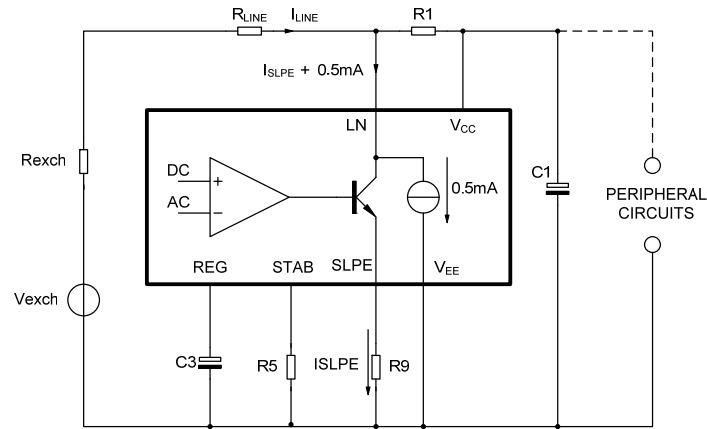

Fig.8 Supply arrangement
Power for the UTC TEA1062N/TEA1062AN and its peripheral circuits is usually obtained from the telephone line. The IC supply voltage is derived from the line via a dropping resistor and regulated by the UTC TEA1062N/TEA1062AN. The supply voltage VCC may also be used to supply external circuits e.g. dialling and control circuits. Decoupling of the supply voltage is performed by a capacitor between VCC and VEE while the internal voltage regulator is decoupled by a capacitor between REG and VEE. The DC current drawn by the device will vary in accordance with varying values of the exchange voltage (Vexch), the feeding bridge resistance (Rexch) and the DC resistance of the telephone line (RLINE). The UTC TEA1062N/TEA1062AN has an internal current stabilizer operating at a level determined by a 3.6kΩ resistor connected between STAB and VEE (see Fig.8). When the line current(ILINE) is more than 0.5mA greater than the sum of the IC supply current (ICC) and the current drawn by the peripheral circuitry connected to VCC(IP) the excess current is shunted to VEE via LN. The regulated voltage on the line terminal(VLN) can be calculated as: